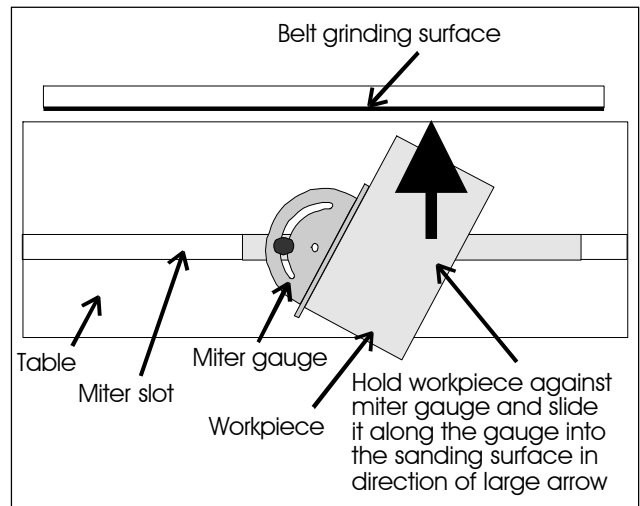

Figure 7: Use of the miter system
3. Place the workpiece against the miter reference surface and slide it along the reference surface and into the grinding belt. The basic method is shown in Figure 7.